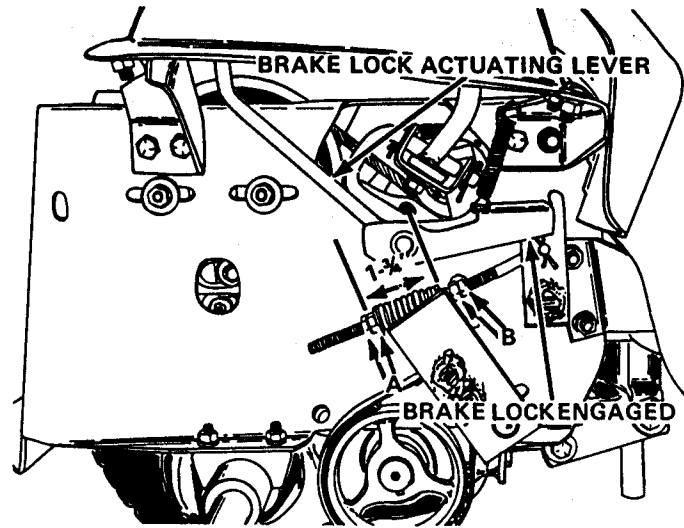

Figure 26
NOTE: Figures 26 and 27 show the right rear tractor tire removed for clarity and for easier access to the brake adjustment.
2. Tighten nuts A, Figure 26, until the compression spring measures 1 1/4 inch.